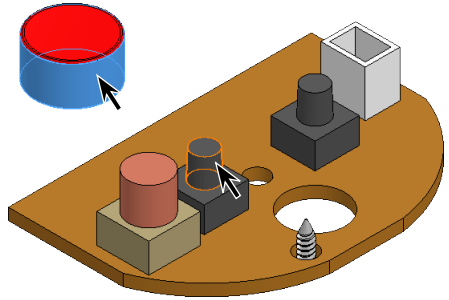

Fig. 17
Step 4. Click **cylindrical face of Button** and a **cylindrical face of forward switch extrude in T Board**, Fig. 17.